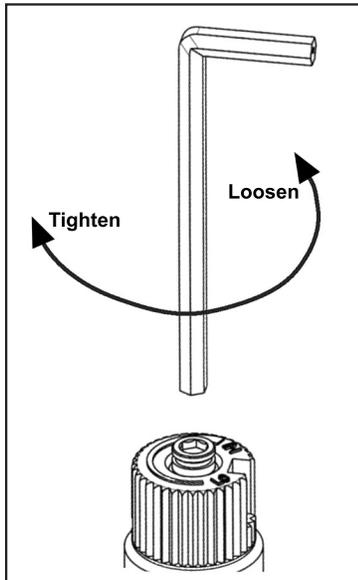

Figure 8: Removing valve screw.
b) Insert a  $\frac{5}{32}$ " or 4 mm Allen wrench into the hexagonal key-way of the screw (see Figure 8), rotate it counter-clockwise until it is free and extract it.
e) Using the Allen wrench as shown in Figure 8, rotate the screw clockwise until a torque of 9 inch lbs. **WARNING!** Do not over tighten the screw. It is recommended that you grip the wrench by the short side.